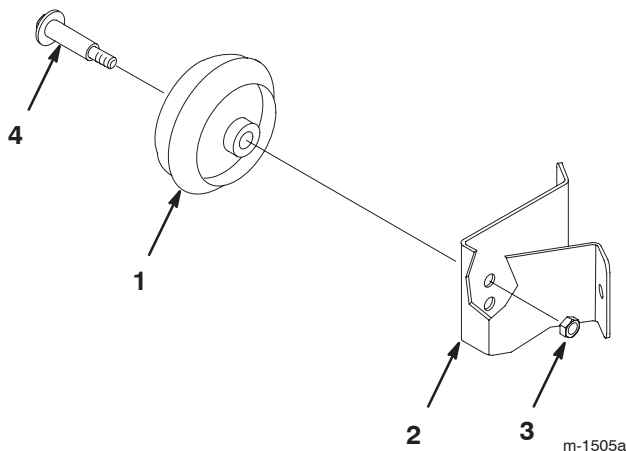

Figure 6
1. Mount the wheels onto the wheel brackets with the wheel bolts and 3/8 in. locknuts (Fig. 6).